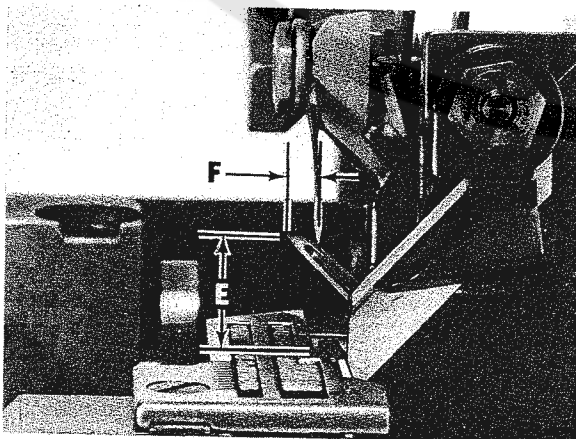

Fig. 13
4. Again rotate handwheel in operating direction until the upper looper/spreader is at the extreme left end of travel. Loosen screw (C, Fig. 11) and rotate holder as required to set point of looper/spreader to dimension "E" Fig. 13 from top of throat plate.
5. With upper looper/spreader still positioned at the left end of travel, it may be necessary to adjust the holder in or out of its shaft to set point of looper/spreader to dimension "F" Fig. 13 to the left of needle and/or right needle centerline. Rotate handwheel to position upper looper/spreader to the right end of travel, then tighten screw (C, Fig. 11) and screw (A) securely.